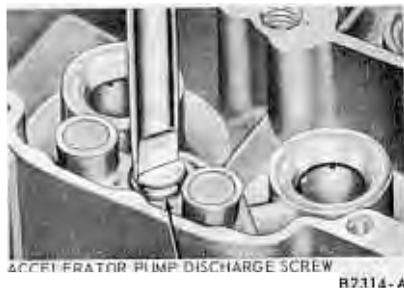

FIG. 16—Booster Venturi Removal or Installation
3. Remove the accelerator pump discharge screw, air distribution plate (if so equipped), booster venturi and gasket (Fig. 16). Invert the main body and let the accelerating pump discharge weight and ball fall into the hand. Remove the fuel inlet fitting.
17. Drop the accelerating pump discharge ball into its passage in the main body. Seat the ball with a brass drift and a light hammer. Make sure the ball is free in the bore. Drop the accelerating pump discharge weight on top of the ball. Position the new booster venturi gasket and the booster venturi in the main body. Position the air distribution plate, if so equipped, and install the accelerator pump discharge screw (Fig. 16). Tighten the screw.